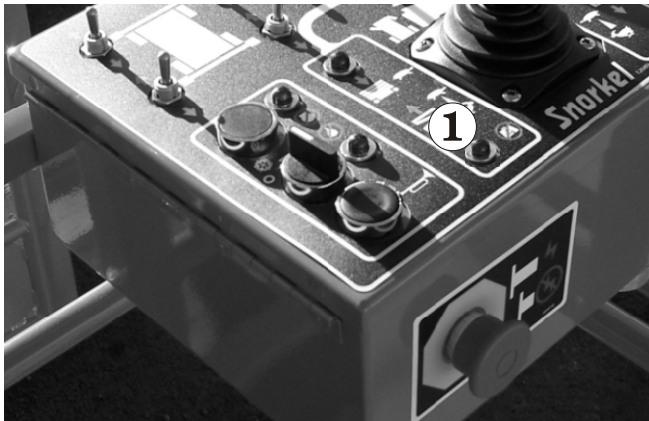

Figure 2.4 - Platform Overload Light
The alarm will sound and the overload light ❶ (see figure 2.4) will illuminate as soon as the overload point is reached.